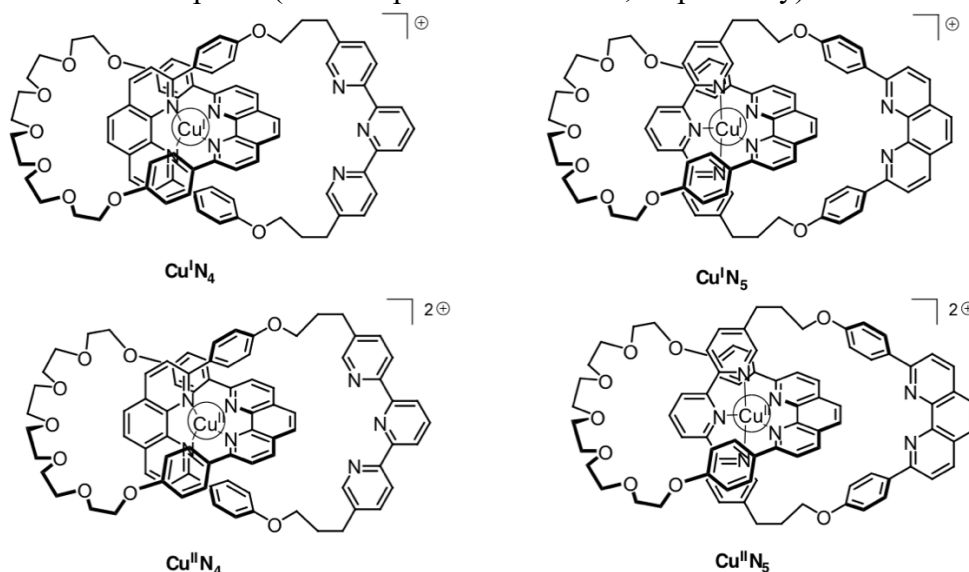

Fig. 2 – [2]catenane **L** states
11. **Fill** in the solid boxes with the labels for the complexes in Fig. 2 and **complete** the sequence to achieve electrochemical control of the system using the following notation for the dashed boxes: (a rotation); $+e^-$; $-e^-$.